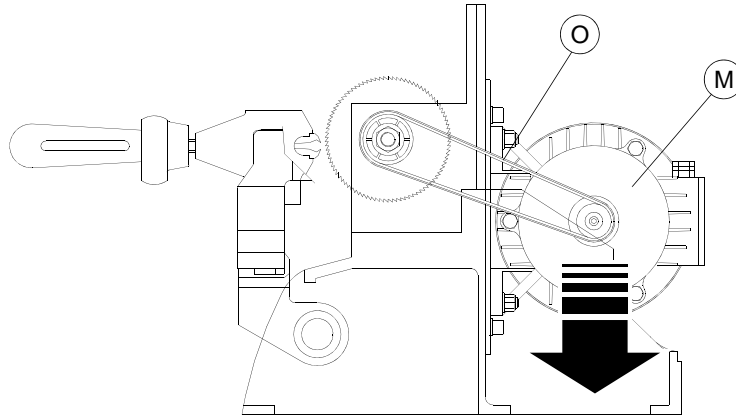

Fig. 20
- 2) Loosen the four screws which fix the motor to the base (fig. 20).